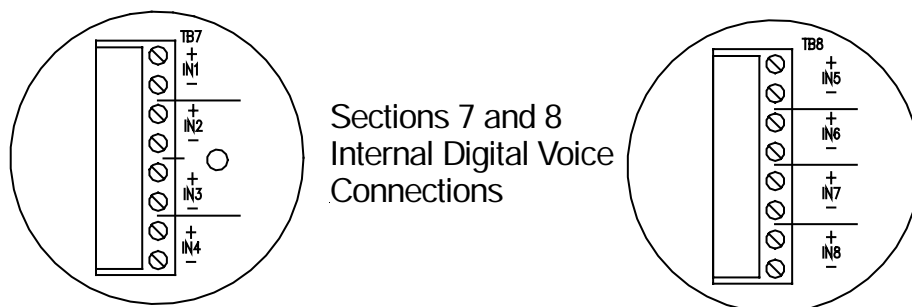

Figure 4-6 Digital Voice Initiating Connections
- While observing correct polarity, connect the Digital Voice Initiating connections (IN1, IN2, IN3, IN4, IN5, IN6, IN7, IN8) to the connections on TB7 or TB8 as desired. See Figure 4-1 for TB7 and TB8's locations. Figure 4-6 is an enlarged picture of the referred area.